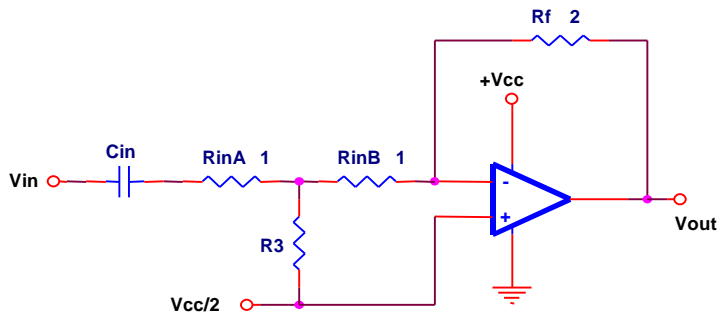

Figure 5. Inverting Attenuation Circuit
which $R2 < R1$. This method is not recommended, because many op amps are unstable at gains of less than unity. The correct way to construct an attenuation circuit¹ is shown in Figure 5.
- Multiply the base value for Rf and Rin by 1 or 2, as shown in Figure 5.